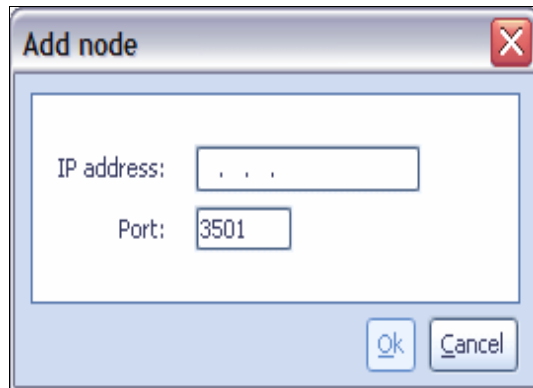

Figure 5-21 ProtecTIER Add node window
1. Click **Add node**. The Add node window opens (Figure 5-21), prompting you for the IP address and port number of the node that you want to add.